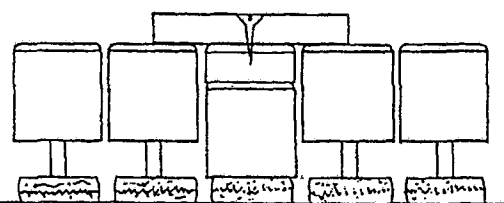

Figure 1
- an extra 3/8" dip block fitted with a crosspiece as shown in Figure 1
- key dip block, preferably modified as shown in Figure 1
While this method works well, I present the modified dip block shown in Figure 1 as an option. This modification can be easily made to any existing dip block, and in my opinion makes it more accurate, faster, and easier to use. Photos 2 & 3 and their accompanying text describe use of the modified block.